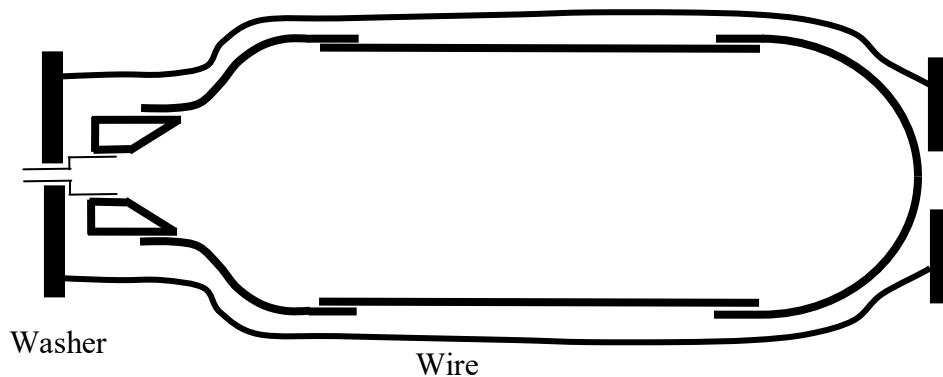

Figure 3. End cap containment system.
- End cap containment system:** A properly selected pipe is very safe. The major point of vessel failure is end caps and fittings flying off because of joint failure. To prevent this, a containment system is needed to prevent parts from flying off in case of joint failure. Figure 3 shows a containment system consisting of large washers at each end of the vessel. The washer is selected so that the center hole rests on the shoulder of the pipe fitting reducer. Holes are drilled in the periphery of the washer so that 14-gauge galvanized steel wire joins the two washers.